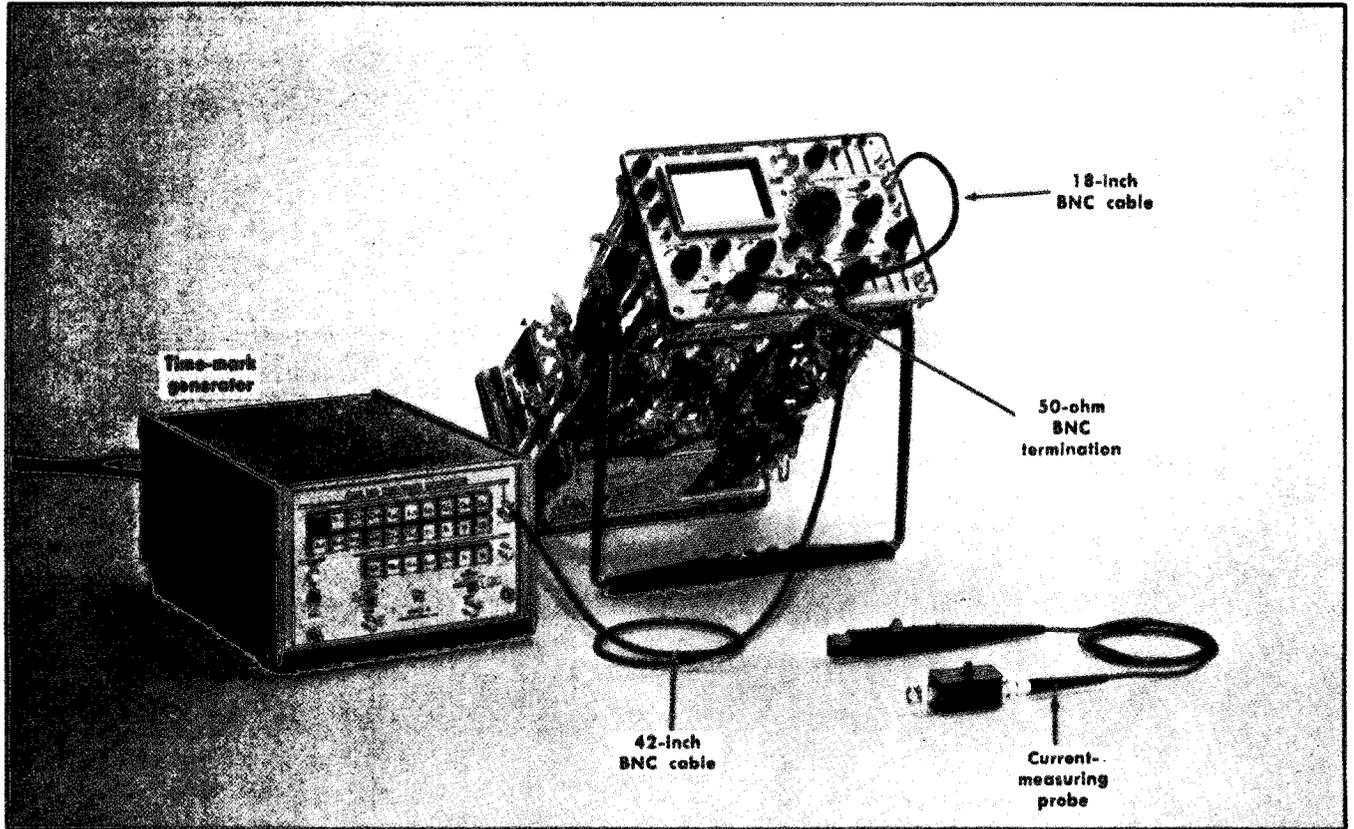

Fig. 6-55. Initial test equipment setup for steps 67 through 70.
67. Adjust Calibrator Repetition Rate ①
- a. Test equipment setup is shown in Fig. 6-55.